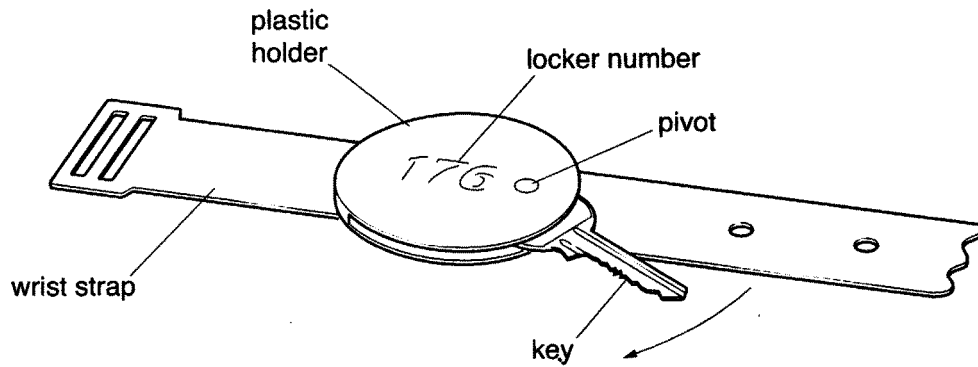

Fig. 1
- 1 Fig. 1 shows a wrist band locker key used in swimming pools. The key swivels into the plastic holder for safety when the wearer is swimming.